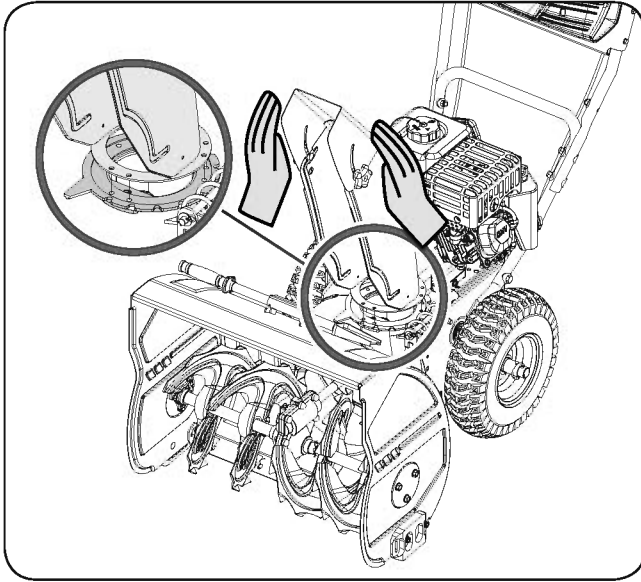

Figure 4b
- Place the discharge chute facing forward over the chute crank flange. (See **Figure 4b**)